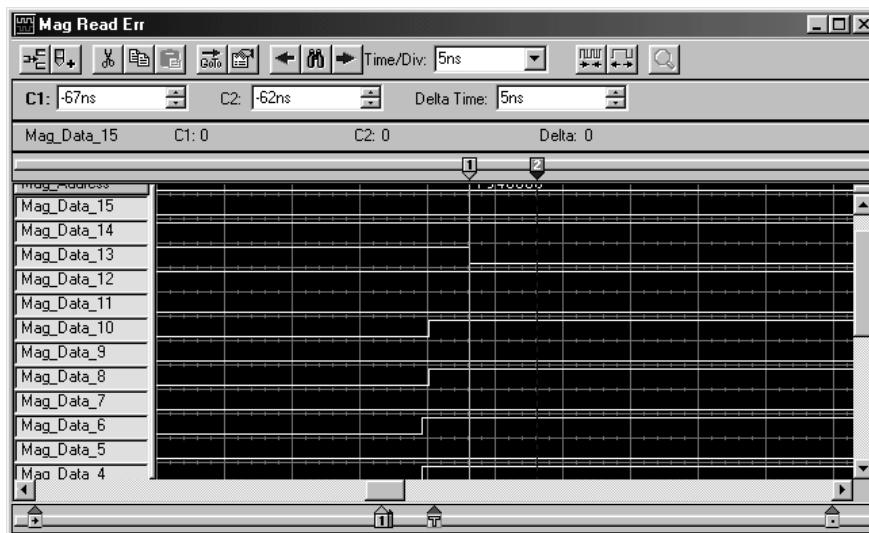

Figure 3-19: Expanded data channels showing a setup violation for Exercise 5
4. Scroll up until you see Mag\_Data\_13. The waveform data should look similar to Figure 3-19. This data channel is transitioning too late and causes the setup violation.